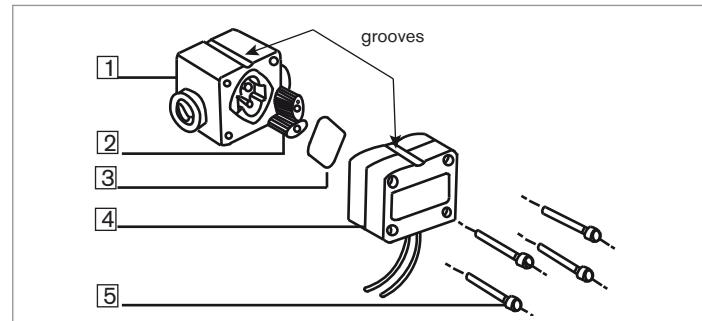

Fig. 7: Exploded view of the device
- Unscrew the 4 screws (mark 5 Fig. 7) and remove the cover including the electronic module (mark 4 Fig. 7).
- Remove the seal (mark 3 Fig. 7).
- Remove the rotors (mark 2 Fig. 7).
- Put the seal (mark 3 Fig. 7) in its groove.
- Put the cover (mark 4 Fig. 7) on the housing, aligning the groove on the cover with the one of the housing.
- Tighten the 4 screws (mark 5 Fig. 7), carefully to avoid damages to the housing, and in an alternating pattern at the following torque: